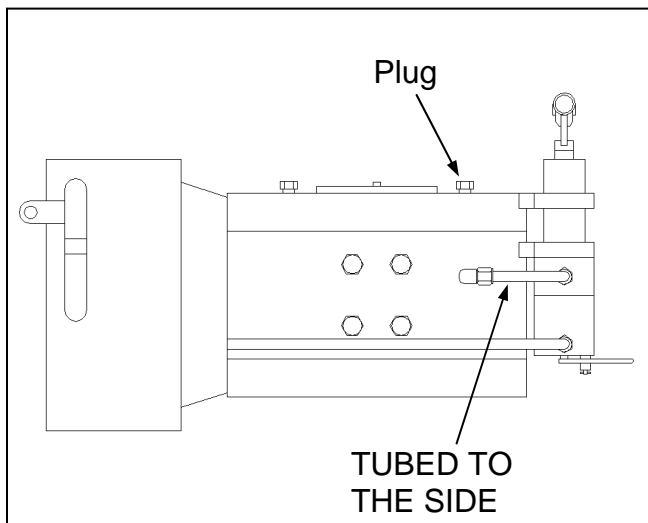

Figure 1: Old Hand Pump Assembly
4. If the old hand pump was tubed to the side of the actuator, as shown in Figure 1, remove the plugs in the upper head, directly above the side ports. Clean the threads of the plugs; apply an appropriate pipe sealant and plug the side ports.